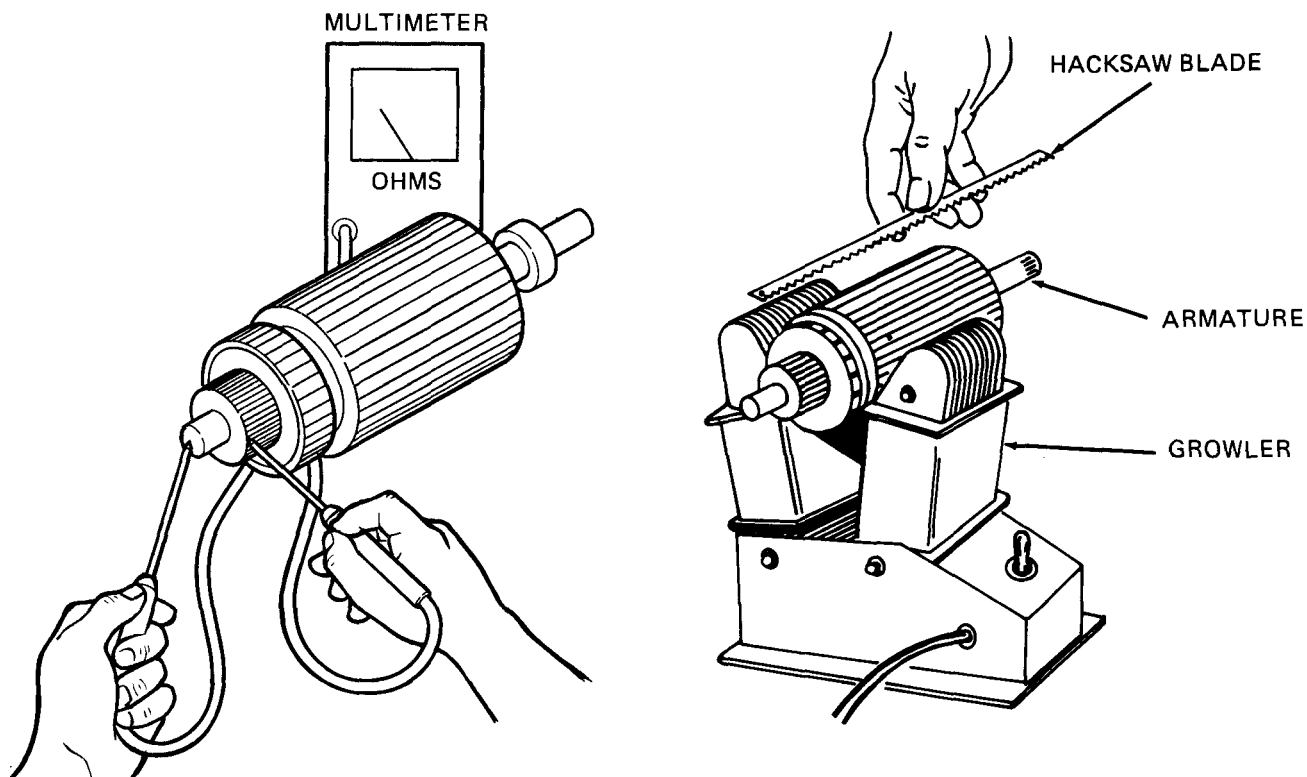
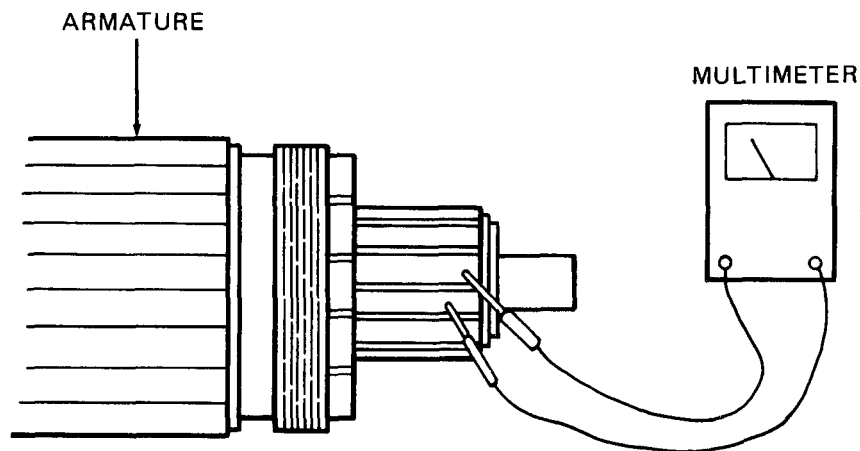

Figure 7-6. Testing Armature for Grounds or Shorts.
Figure 7-7. Testing Armature for Open Circuits.
(a) Refer to Figure 7-6. Use a multimeter (set to read ohms) to check for a grounded armature.
- (b) Refer to Figure 7-6. Place armature in growler and hold a thin steel blade (e.g. hacksaw blade) parallel and just above the armature core while rotating armature at one-quarter turn intervals in the growler. Turn off the growler between intervals.
- (3) Test armature for an open circuit.
- (a) Refer to Figure 7-7. Use a multimeter (set to read ohms) to check for continuity between commutator segments.